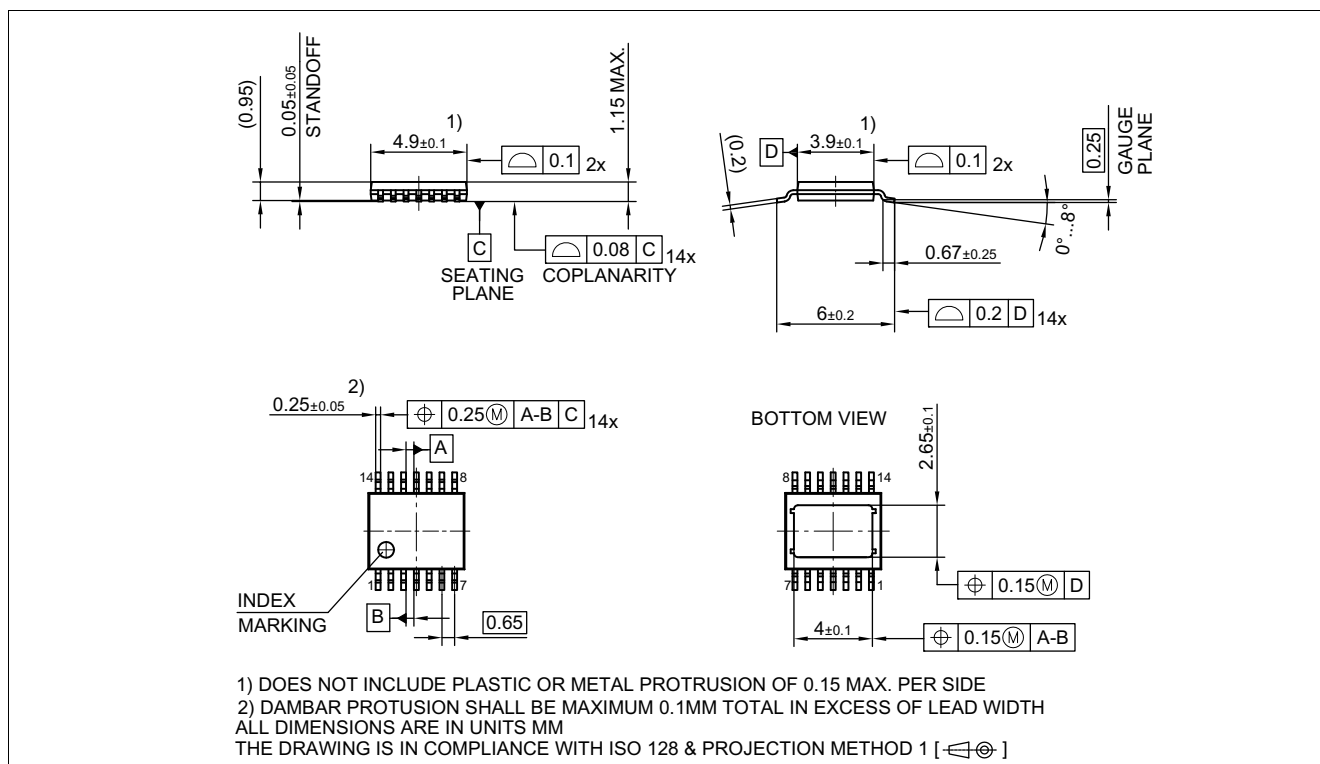
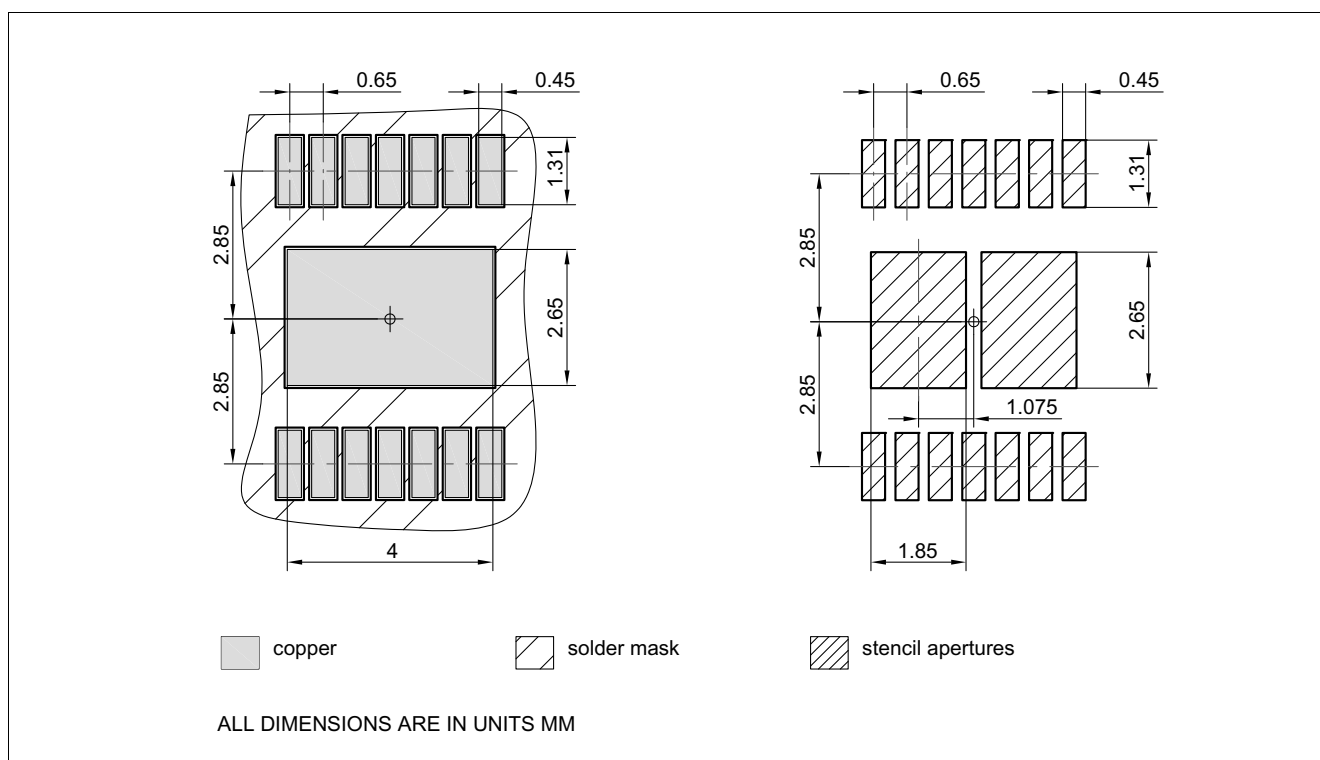

Figure 43 PG-TSDSO-14 (Thin (Slim) Dual Small Outline 14 pins) Package Outline
Figure 44 PG-TSDSO-14 (Thin (Slim) Dual Small Outline 14 pins) Package pads and stencil
1.01 , 2019-06-26	Chapter 9.2 updated ($2\text{ V} \rightarrow V_{\text{DS(OLOFF)}}$) General: updated (ReverSave™ → ReverseON) Figure 1 updated Chapter 1 updated ((inserted headline "Product Validation"), (Qualified in accordance with AEC Q100 grade 1 → Qualified for automotive applications. Product validation according to AEC-Q100 Grade 1.)) General: updated Product Name (PROFET™+2 → PROFET™+2 12V) Page 1: updated figure product Table 23 updated punctuation Chapter 9.3.1 updated (typo) Page 1: updated (Package PG-TSDSO-14-22 → Package PG-TSDSO-14) Figure 29 updated Figure 43 updated (PG-TSDSO-14-22 (Thin (Slim) Dual Small Outline 14 pins) Package Outline → PG-TSDSO-14 (Thin (Slim) Dual Small Outline 14 pins) Package Outline) Figure 44 updated (PG-TSDSO-14-22 (Thin (Slim) Dual Small Outline 14 pins) Package pads and stencil → PG-TSDSO-14 (Thin (Slim) Dual Small Outline 14 pins) Package pads and stencil) Table 1 updated ((Symbol: $I_{\text{VS(SLEEP)}}$ → $I_{\text{VS(SLEEP)_85}}$), (Parameter: Minimum Overvoltage protection ($T_J = 25\text{ °C}$) → Minimum Overvoltage protection ($T_J \geq 25\text{ °C}$)) P_9.6.0.6 updated (Note or Test Condition: removed unnecessary line-break)